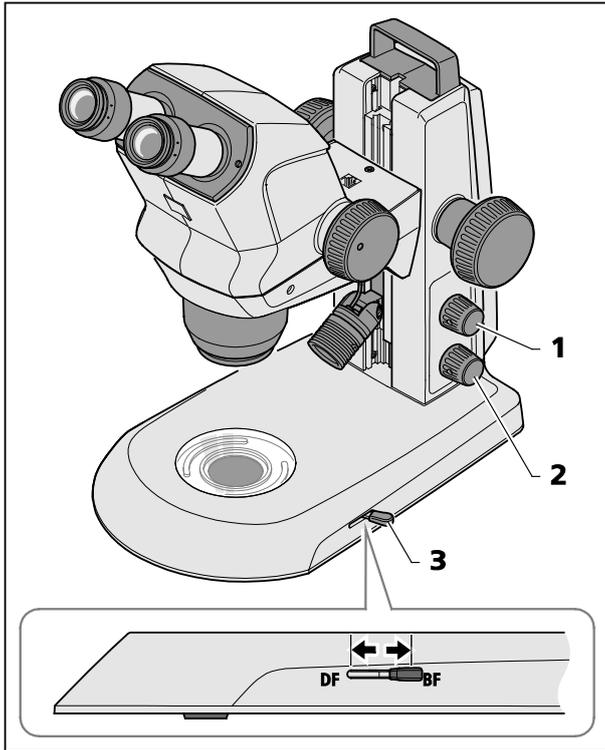

Fig. 19 Transmitted-light module in stand K EDU
- Switch transmitted-light illumination ON by pressing the lower knob (Fig. 19/2).
- Change over by adjusting the lever (Fig. 19/3) between the bright field and the dark field illumination.
- Front position: Dark field (DF)
- Rear position: Bright field (BF)
Press the upper button (Fig. 19/1) to blend in reflected light (see Section 4.2 on page 25).